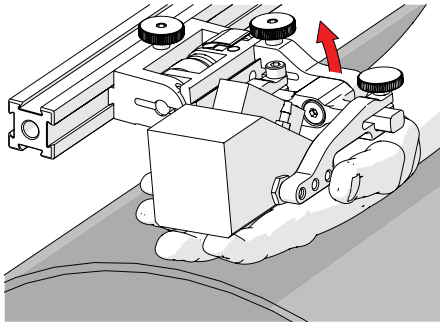

Fig. 35 - Lift to Latched position
1. Ensure probe holder is in latched, upper position (Fig. 35). If the probe holder is already latched, it will only move within the slip joint adjustment range and have no spring tension.
1. Ensure the probe holder is in the upright latched position (Fig. 35).